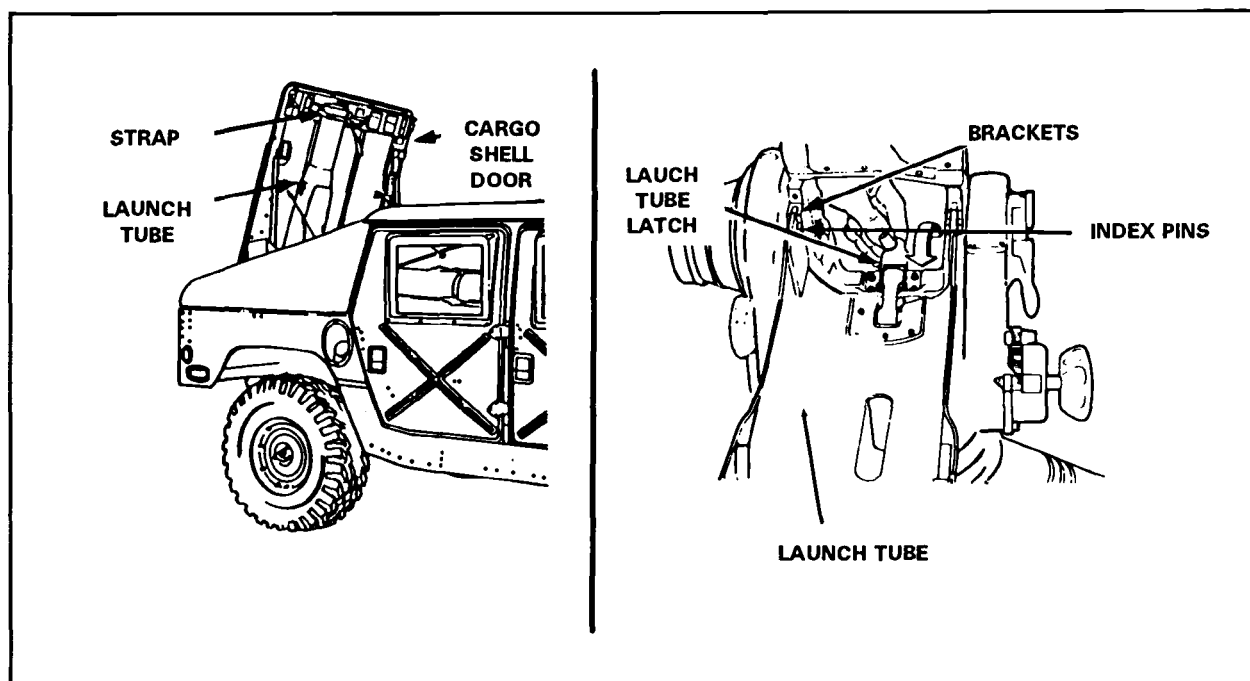

Figure 3-10. Launch tube latch.
- (1) The driver-loader uses the forward latch to open the cargo shell door and hands the launch tube to the gunner.
- (2) The gunner installs the launch tube on the traversing unit and secures it with the launch tube latch (Figure 3-10).